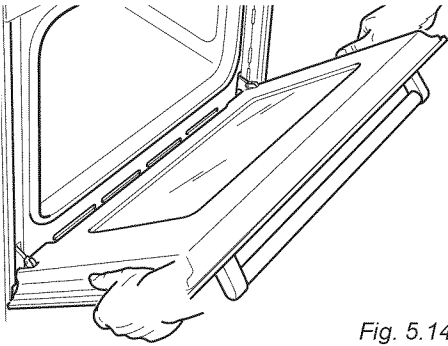

Fig. 5.14
- Hold the door as shown in fig. 5.14.
- Hold the door firmly (fig. 5.14).